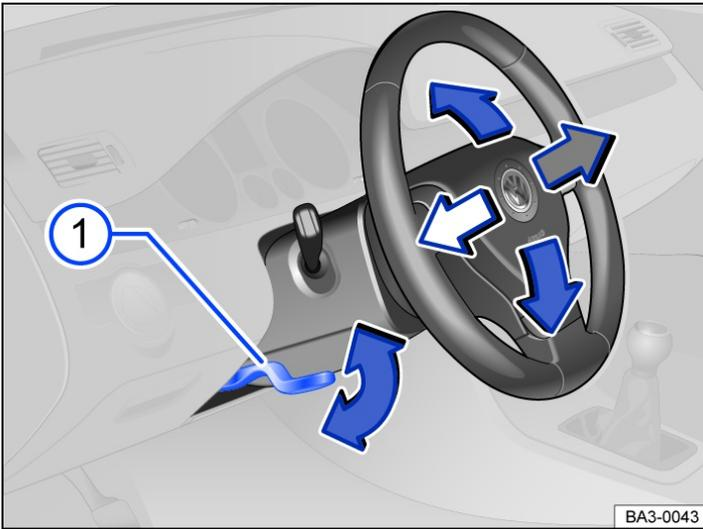

Fig. 1 Below the steering wheel in the steering column trim: lever for mechanical adjustment of the steering wheel position.
— Push down the lever → Fig. 1 ①.
- After adjusting the steering column, always move the lever → Fig. 1 ① up so that it engages securely. This prevents the steering column from moving spontaneously while the vehicle is in motion.